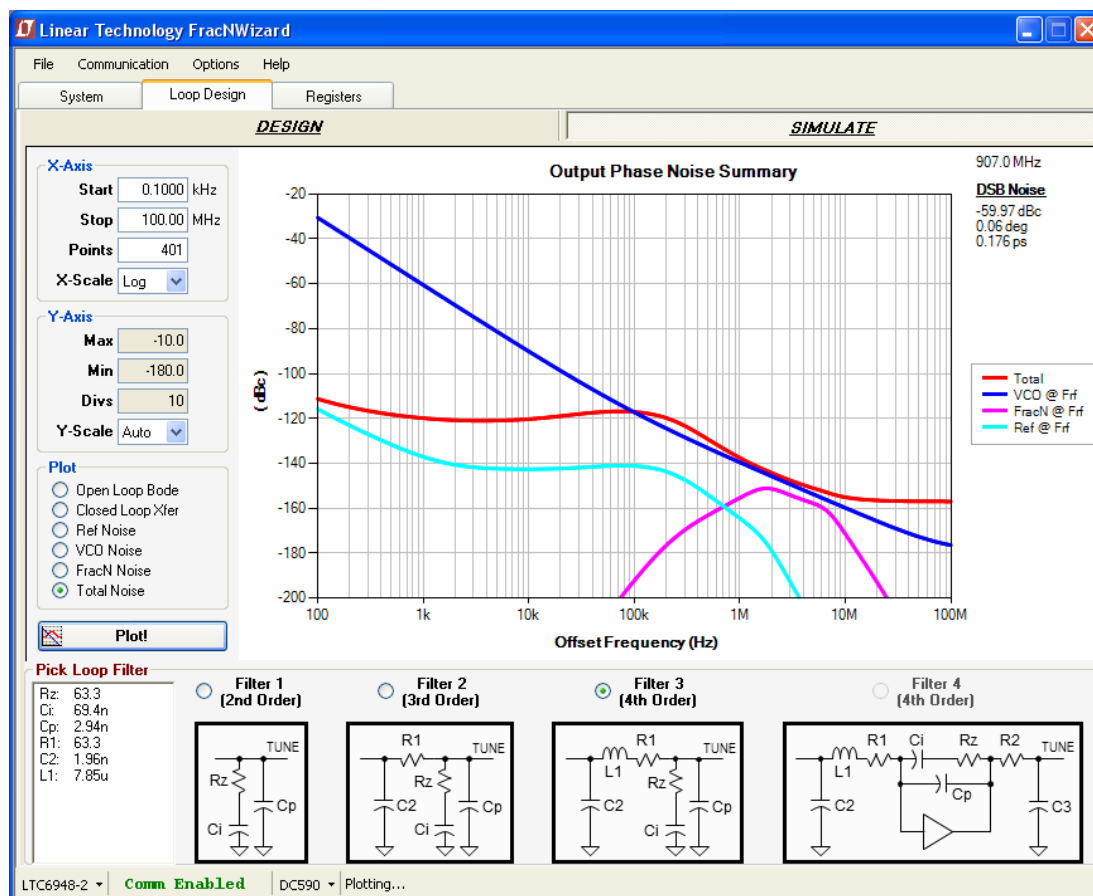

Figure 3. FracNWizard Screenshot
1. Verify that you are able to communicate with the DC1959A. The bottom status line in FracNWizard should read LTC6948 and Comm Enabled as shown in Figure 3. Refer to FracNWizard's Troubleshoot and Help if not.